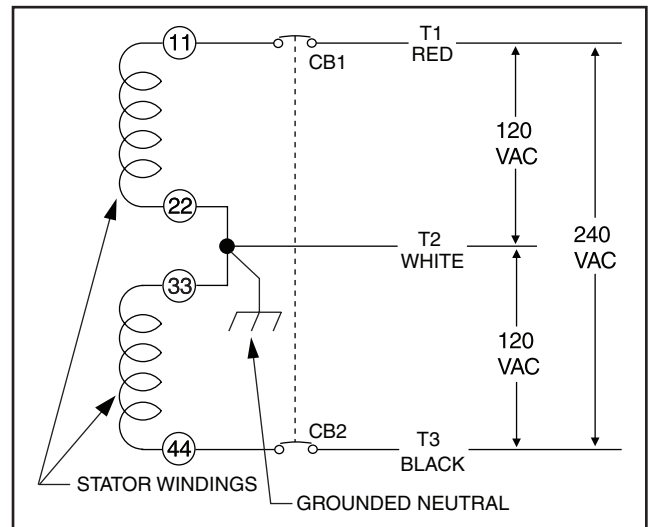

Figure 1-9 - Connection for 120/240 Volts
2. 120/240 VAC loads — one load with a maximum total wattage requirement equal to the generator's rated power output, and 240 VAC across the generator output terminals; or two separate loads, each with a maximum total wattage requirement equal to half of the generator's rated power output (in watts), and 120 VAC across the generator output terminals. Figure 1-9 on page 7, shows the generator lead wire connections for 120/240 VAC loads.